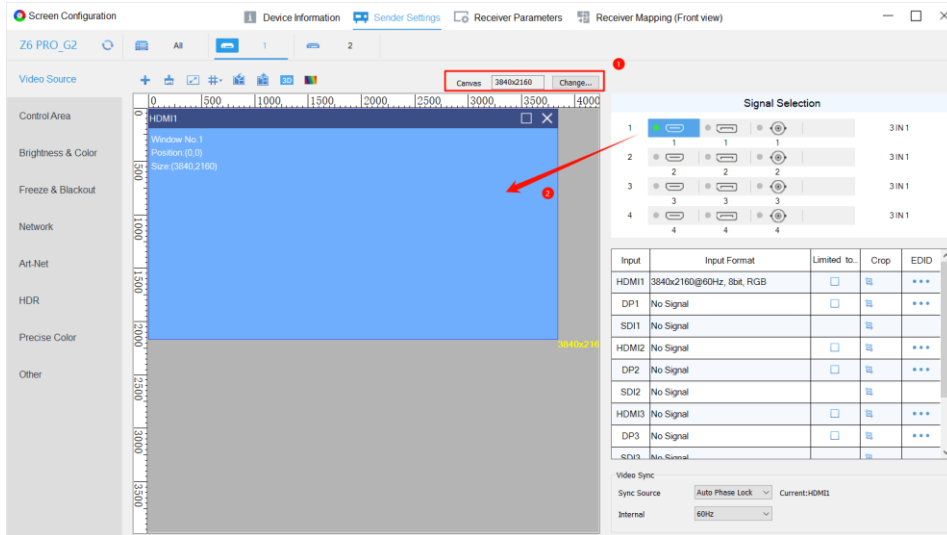

Fig 2.2.1 Video source
Step 3: Select the signal source to be displayed, then drag it to the canvas to make it display normally, as shown in Figure 2.2.1.